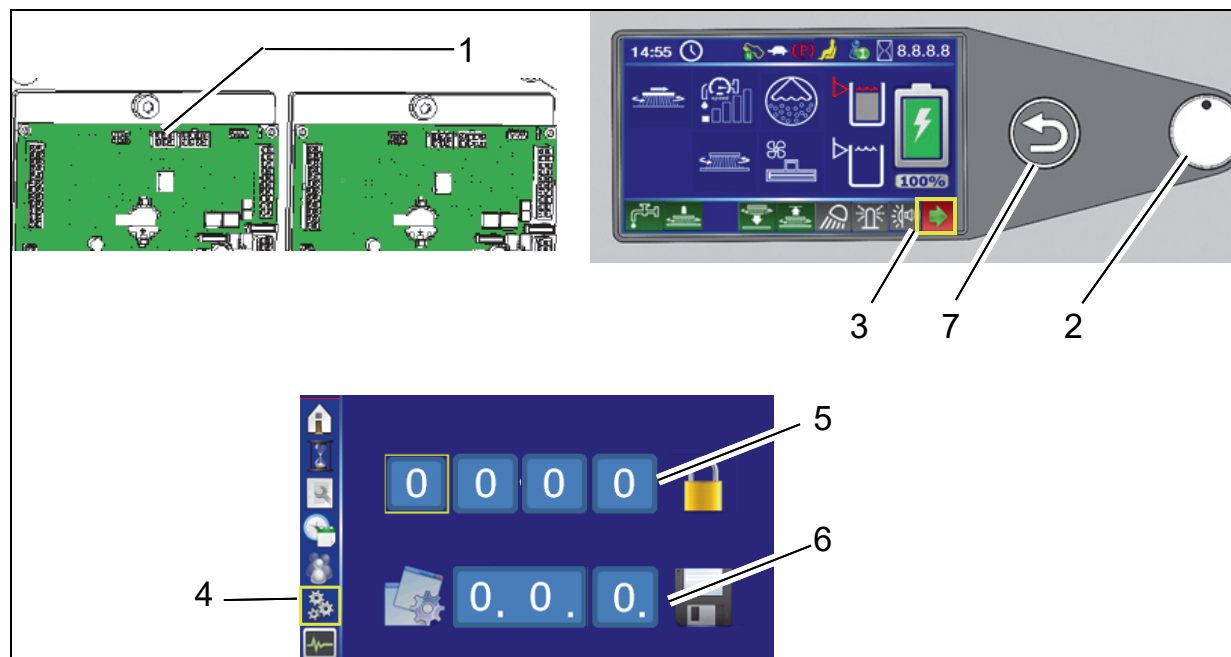

Fig. 3
Plug diagnostic connector into slot X20 of controller A1 (Fig. 3/1).
2. Select the arrow soft key (Fig. 3/3) on the control panel using the turn-push knob (Fig. 3/2) and press to access the sub-menu.
3. Select the configuration menu in the sub-menu (Fig. 3/4).
4. Enter the 4-digit code in the configuration menu at the top (Fig. 3/5):
In the configuration menu at the bottom (Fig. 3/6), set the value of the option and save by pressing the turn-push knob. After confirming the last digit, OK? appears. Press the turn-push knob again to save the value. Saved value is displayed in green. If the value is not to be saved, exit menu using the return key (Fig. 3/7).